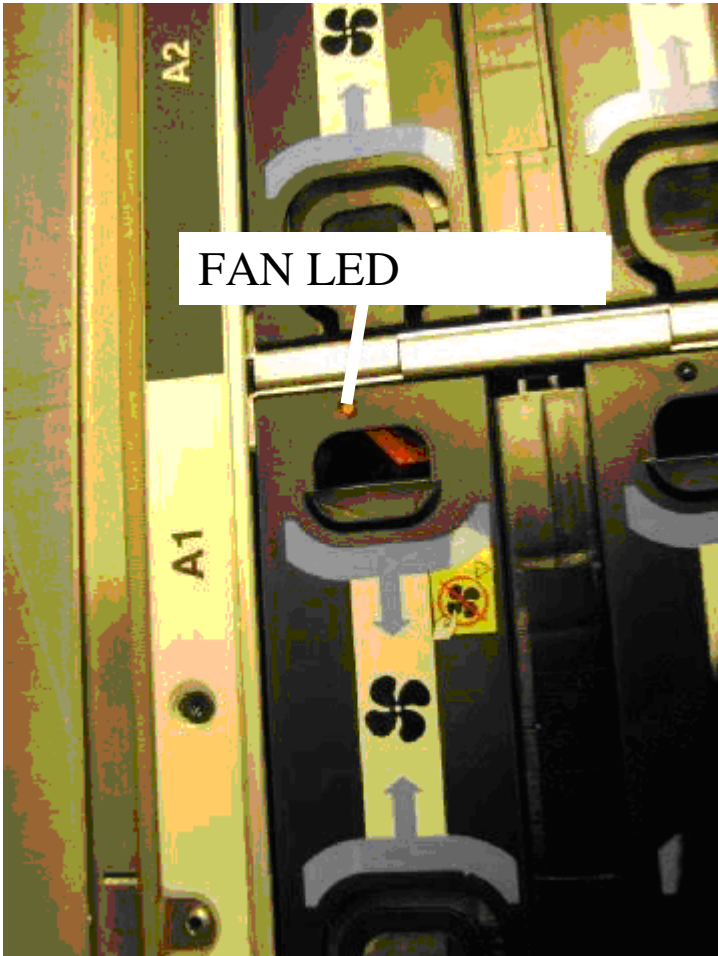

Figure 35 Fan failure ID LED
- STEP 39 Replace fan cover (see Figure 35.)